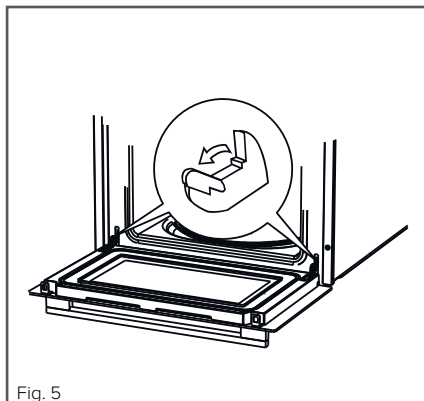

Fig. 5
- Lift and tilt the safety catch part of the hinge (fig.5) so that it is fully extended and points towards the door.